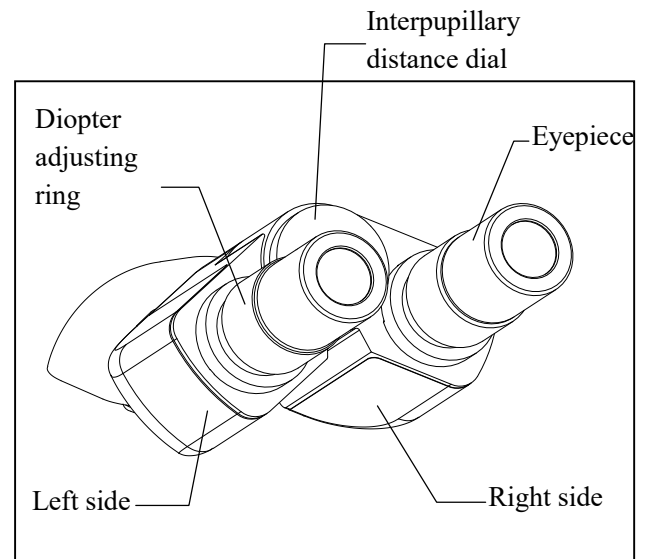

Fig.3 Adjustment of interpupillary distance and diopter
3.2.4 Adjustment of interpupillary distance and diopter (Fig.3)